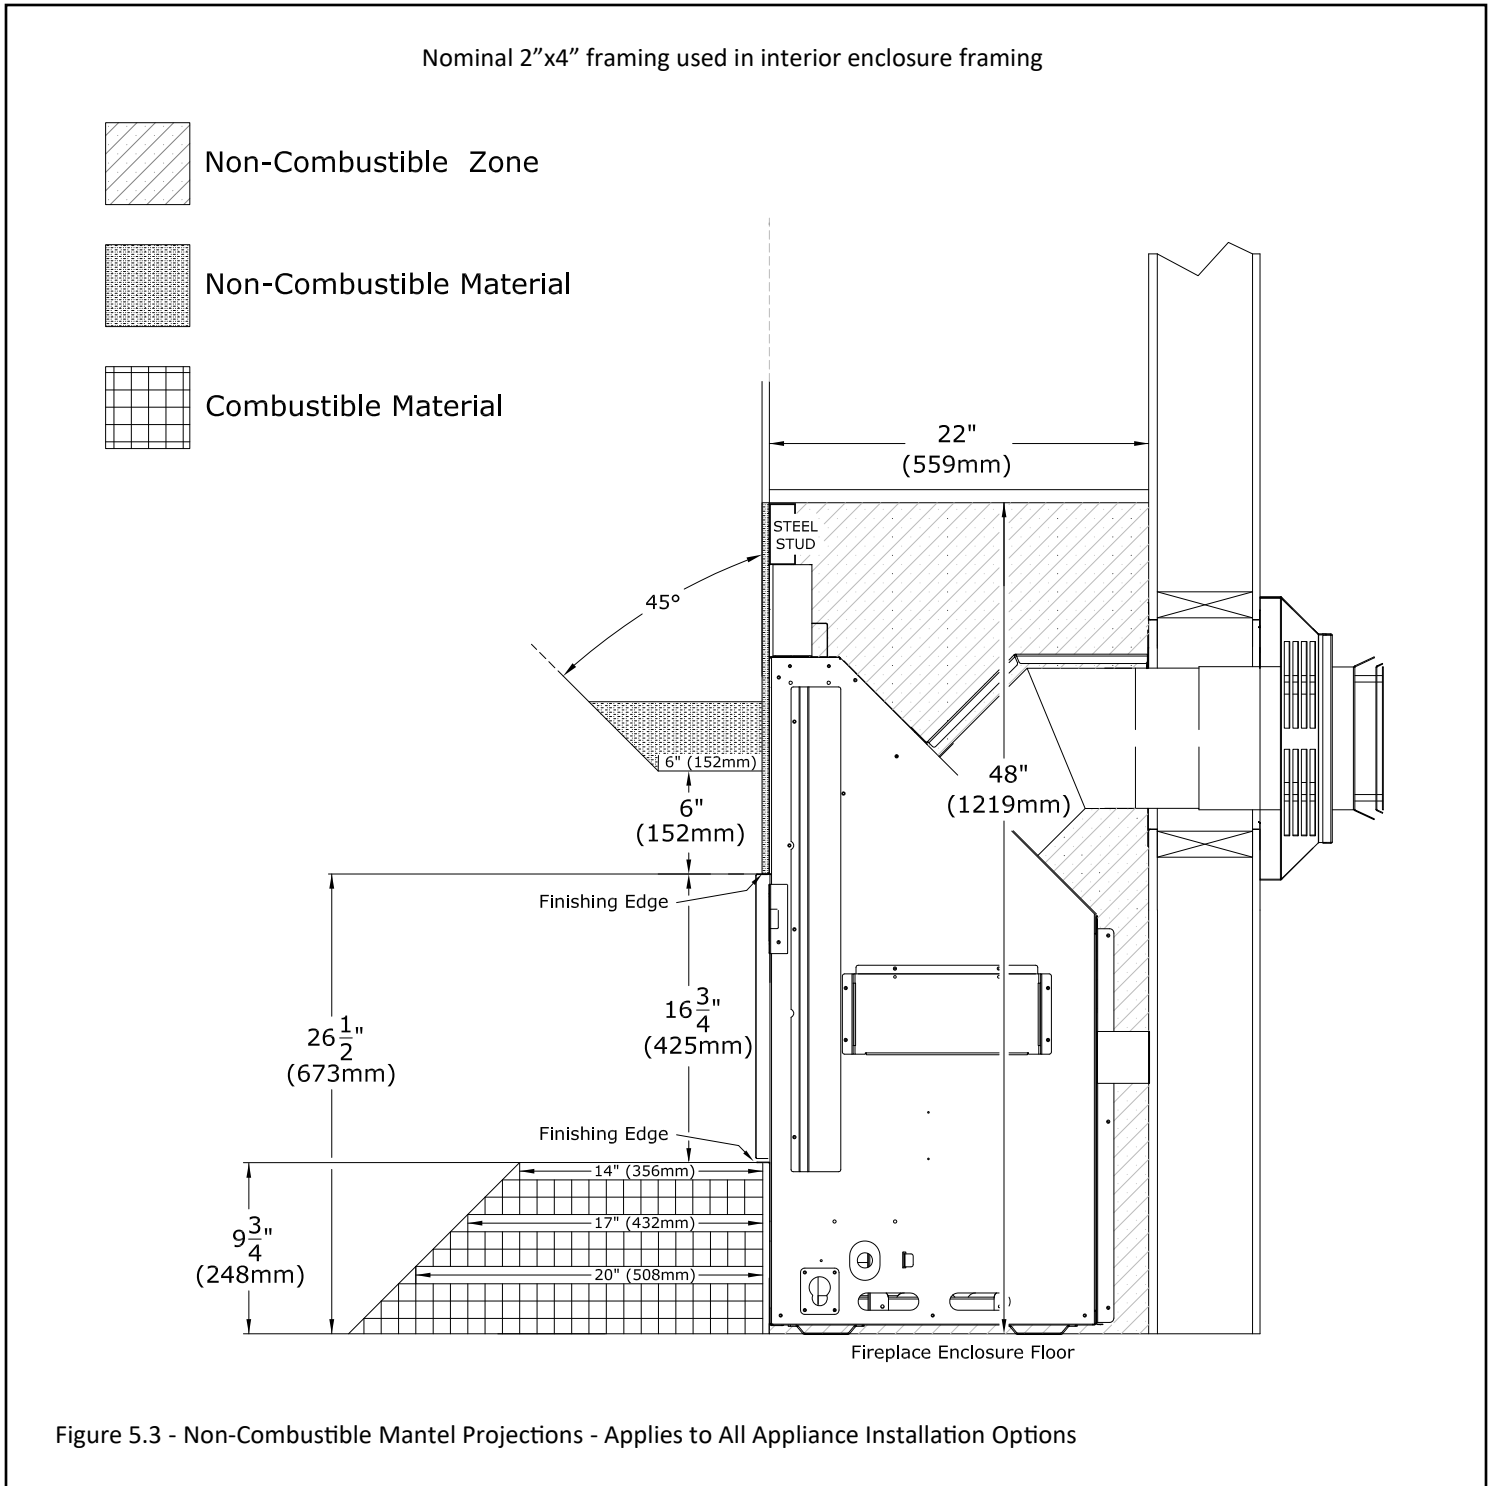

Figure 5.3 - Non-Combustible Mantel Projections - Applies to All Appliance Installation Options
- Noncombustible Mantel Projections: As referenced in FIGURE 5.3, the 6" (152mm) noncombustible mantel projection can start at 6" (152mm) from the top fireplace finishing edge. Follow projection 1" (25mm) up for every 1" (25mm) deeper.
Figure 5.3 shows a 6" (152mm) non-combustible mantel projection starting 6" (152mm) up from the top finishing edge of the fireplace. The dimensions shown are allowed in the standard installation scenario. Mantel projections can increase 1" (25mm) of depth for every 1" (25mm) of height starting at the 6" (152mm) mantel. A 14" (356mm) combustible hearth is allowed flush at the bottom finishing edge of the fireplace.